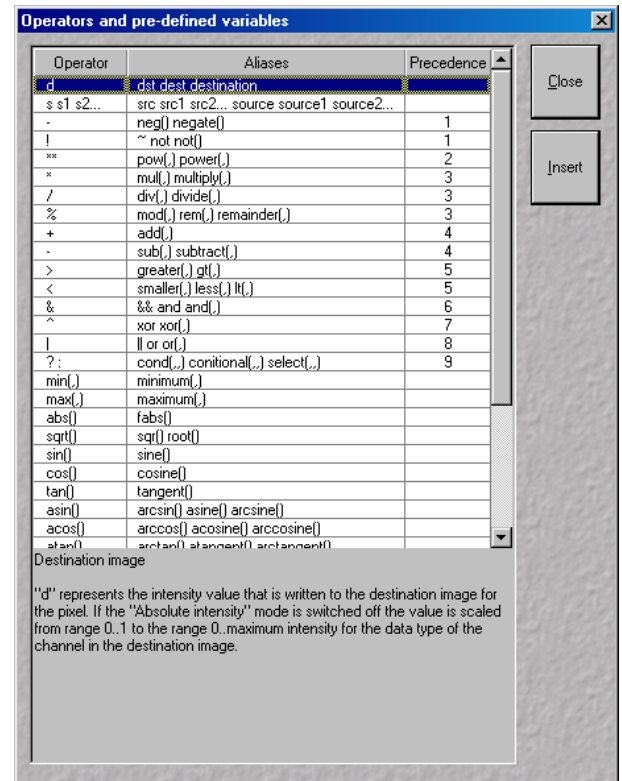

Fig. 4-116 Operators window
- Select the operator(s) from this list (Fig. 4-116) and click the **Insert** button.